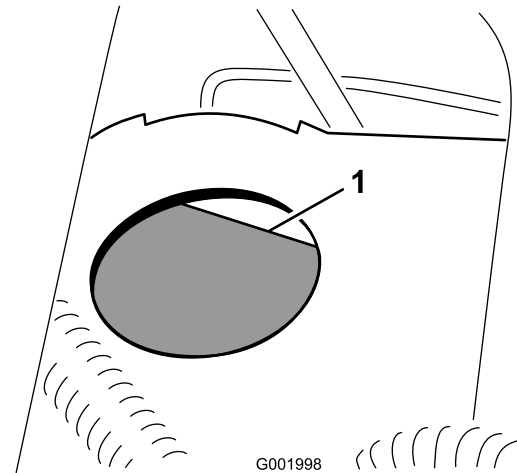

Figure 60
2. The fluid level should be up to the Full line on the reservoir (Figure 60).